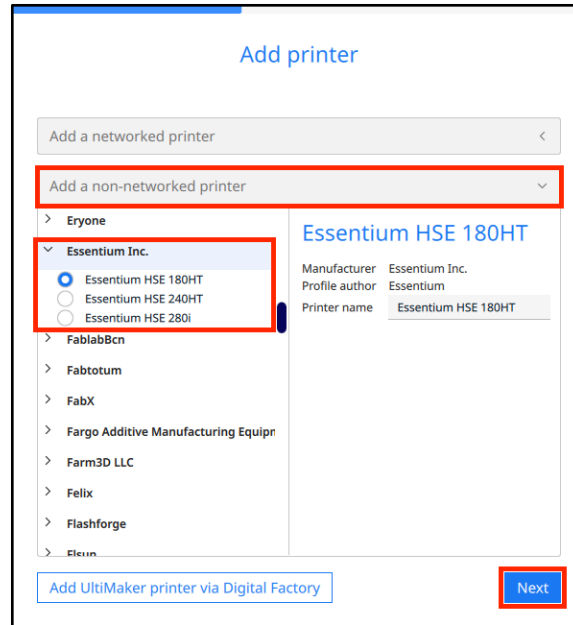

Figure 5: Adding an HSE Printer
11. Select the desired HSE machine, and then select ‘Next’ (See Figure 5).